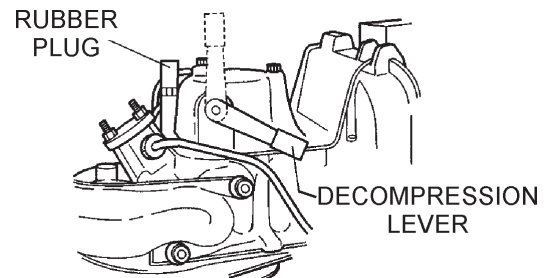

Figure 36. Decompression Lever
- Remove the rubber plug (Figure 36) on the rocker arm cover and add about 2 cc of lube oil. Reinstall rubber plug.